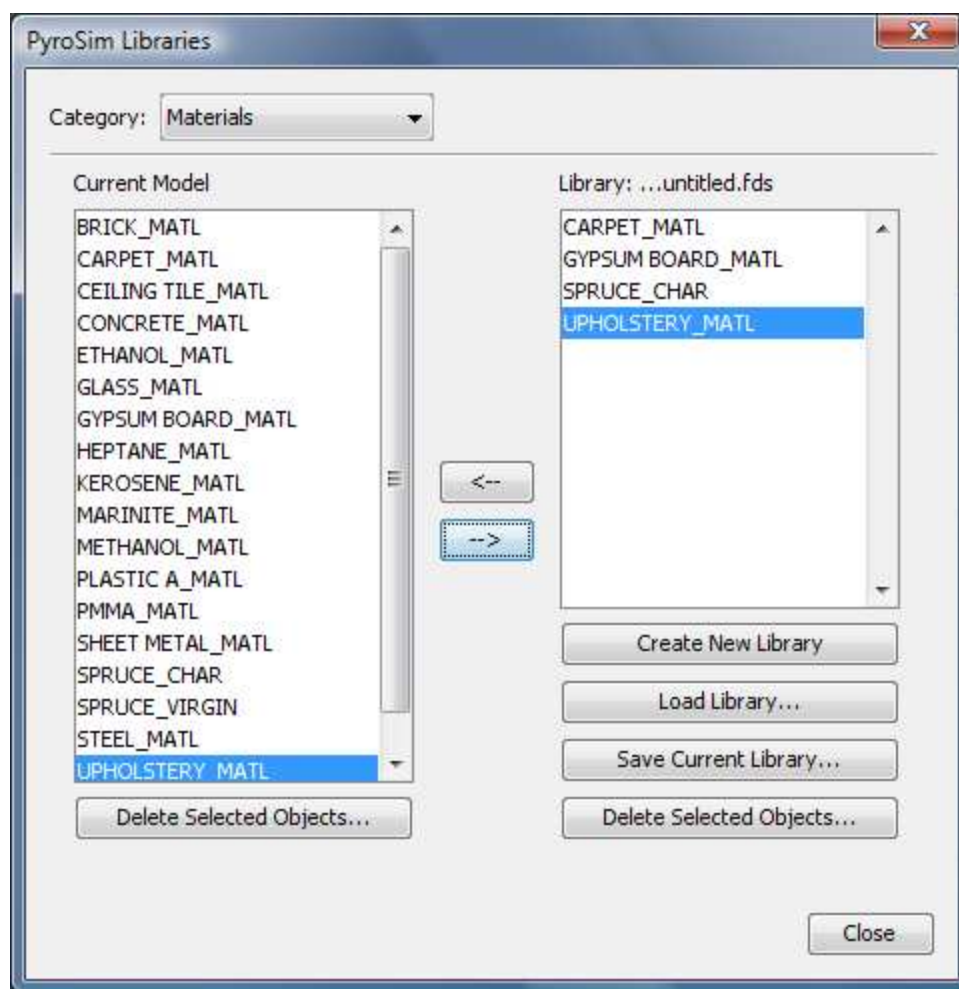

Figure 150. Creating a library of materials
2. Select the **Category** that you want to manage and move selected items from the **Current Model** into the **Library**, Figure 150.